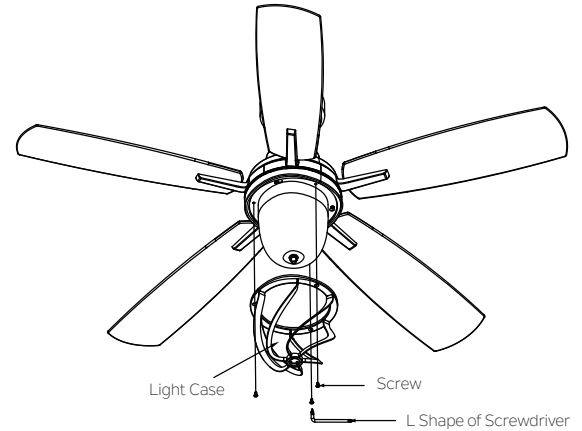

Fig. 24
**Step 5.** Attach the light case to the light kit, align with three (3) round holes, tighten with three (3) screws by using the included L shape of screwdriver. (Fig. 24)